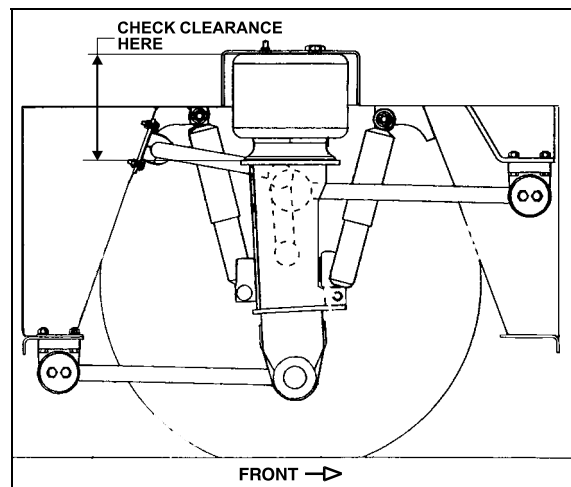

FIGURE 14: TYPICAL AIR SPRING CLEARANCE 16108
The appropriate vehicle body height is obtained by measuring the clearance of all the air springs installed on the front and drive axles. The clearance should be $12 \pm \frac{1}{4}$ " (305 ± 6 mm) for the air springs installed on the front axle and $11\frac{1}{2} \pm \frac{1}{4}$ " (292 ± 6 mm) for those installed on the drive axle. Refer to figure 14 to identify the correct location where the measure has to be taken. At this point, it should not be necessary to make an adjustment under normal service conditions. However, if an adjustment is required, change the position of the overtravel lever in relation to the overtravel control body. The lever should be moved up to raise the height of vehicle and down to lower it. Check that main air pressure is at normal operating pressure and raise the vehicle to the specified height.
1. With the vehicle at normal operating air pressure, check the air spring clearance as illustrated in figure 14. This clearance should be $12 \pm \frac{1}{4}$ " (305 ± 6 mm) for the front axle air springs and $11\frac{1}{2} \pm \frac{1}{4}$ " (292 ± 6 mm) for those on the drive axle.
Note: The measure should be taken from under the upper air spring support on subframe to top of the lower air spring support on axle (refer to fig. 14 for more details). If adjustment is required, begin with the drive axle.